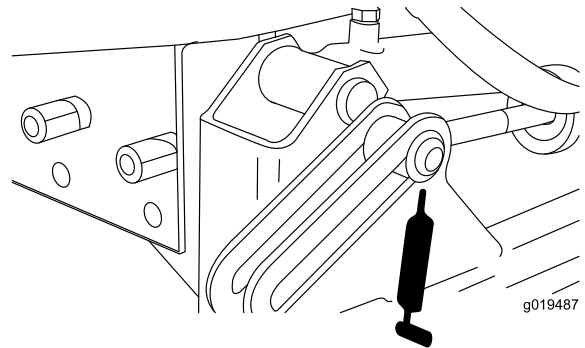
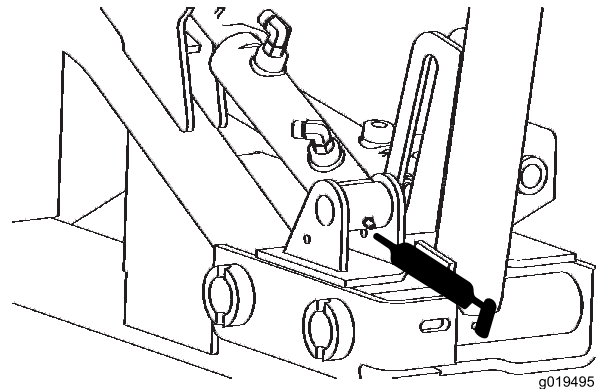

Figure 46
Figure 47
- Front lift cylinders (3) (Figure 46 and Figure 47).